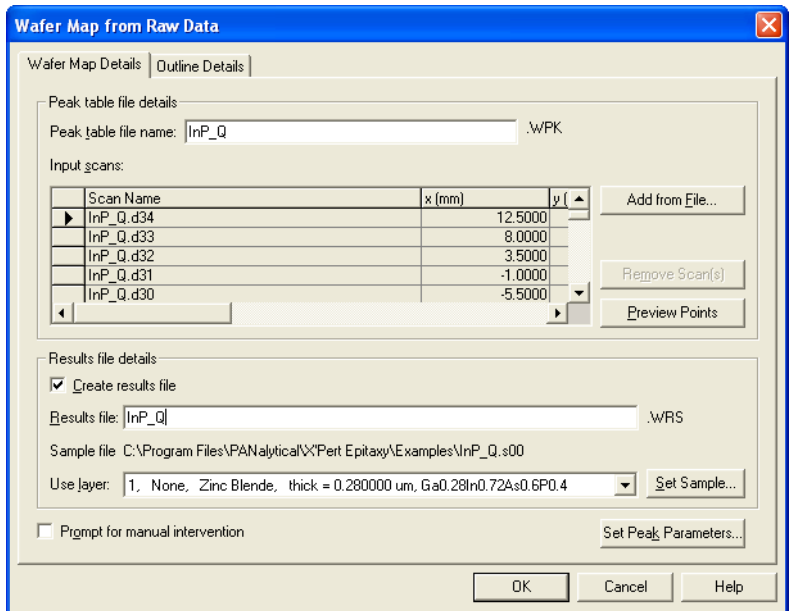

Figure 4-7: The “Wafer Map Details” tab
The “Wafer Map Details” tab should now be as in Figure 4-7.
- When you are editing the “Wafer Map Details” tab (Figure 4-7) tick the “Prompt for manual intervention” option box.